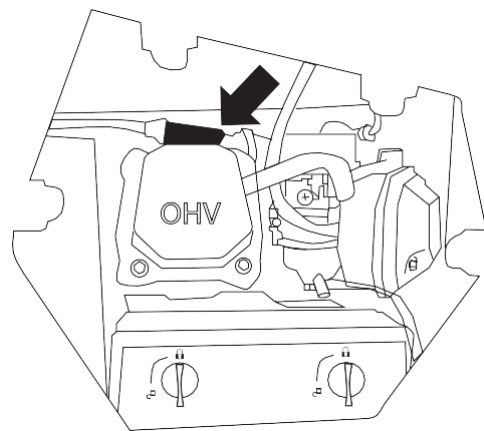

Figure 18: Pull off Spark Plug Cover
22. Remove the spark plug cover by firmly pulling the metal spark plug boot directly away from the engine (see Figure 18).